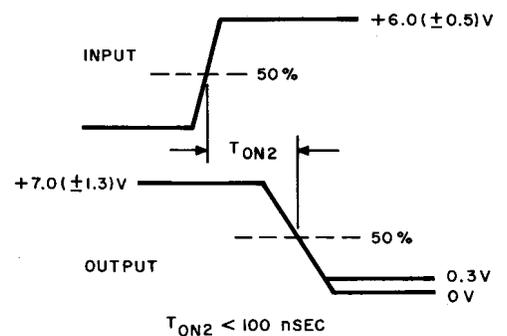

Fig. 43A — EIA Interface Test
- (2) Rotate the switch through positions 6 to 9. The input-output waveforms shall be as specified in Fig. 43A.